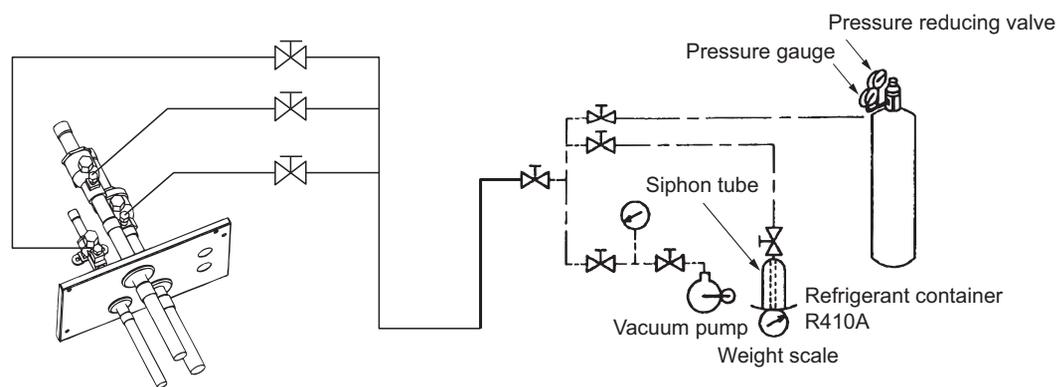

Fig. 17
- Connect the manifold gauge to both service ports - on the wide tube side and narrow tube size. Then connect the nitrogen tank, vacuum pump, and other items as shown in Fig. 17.